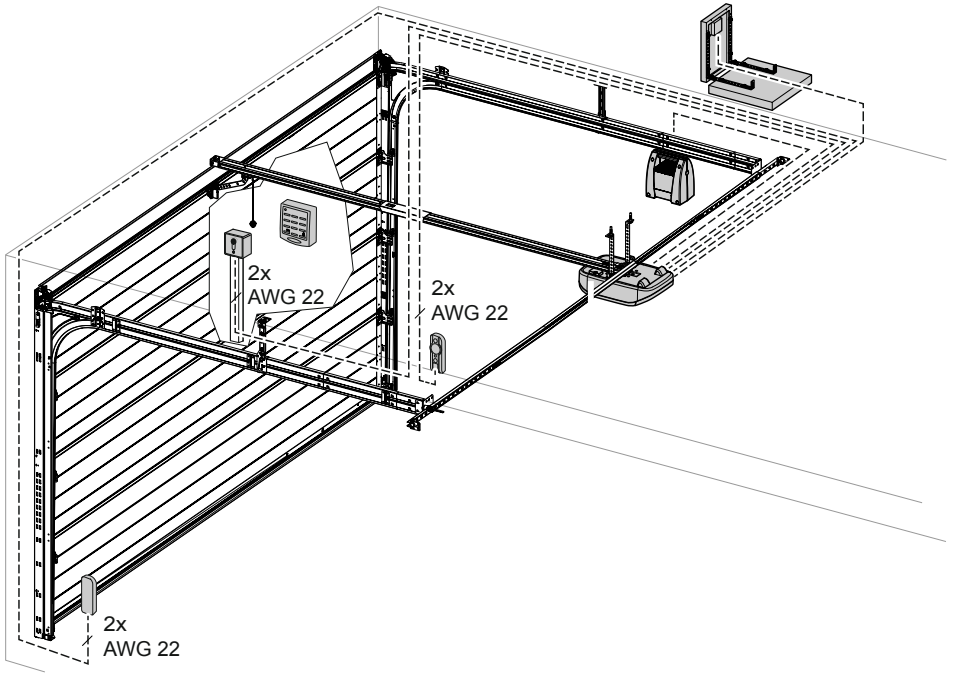

Fig. 3: Example installation of accessories
Mount the centre suspension (13) to the rail (fig. 3).
3. Option: Roof mounting (flat roof, fig. 3)